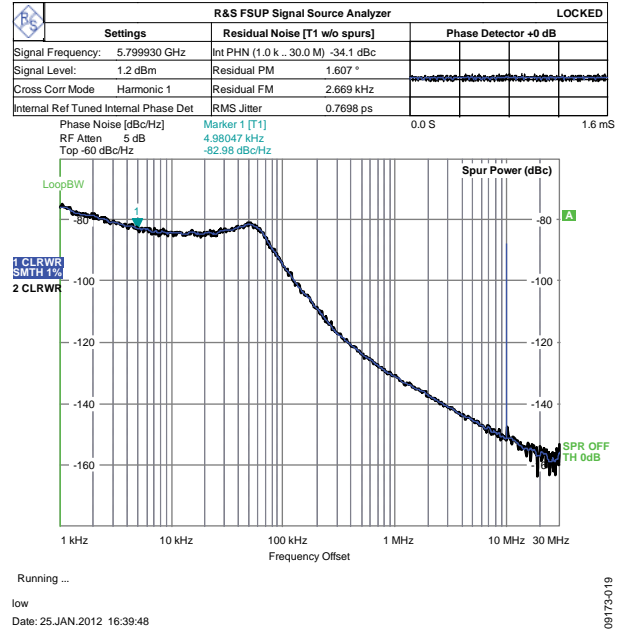
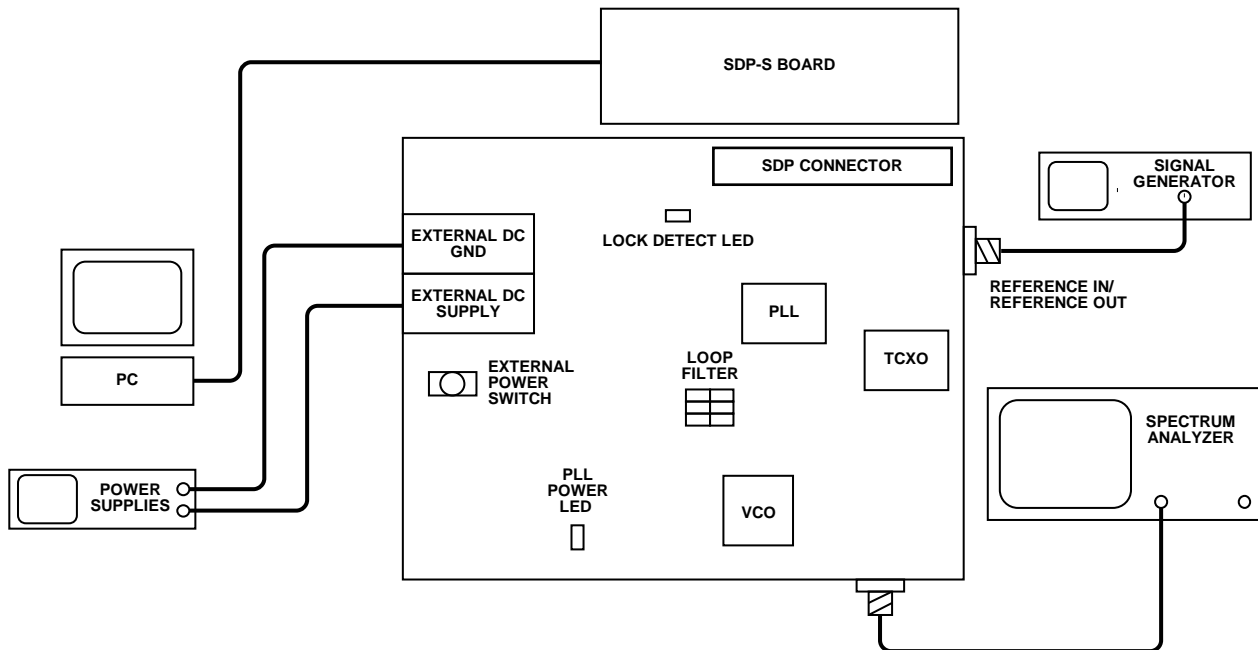

Figure 19. Spectrum Analyzer Display
Figure 20. Typical Evaluation Setup
6. In the software window, set the VCO center frequency (the example in Figure 19 uses 5800 MHz). Set the PFD frequency to 10 MHz, and program the reference frequency to equal 10 MHz. The charge pump current should equal 0.31 mA. See Figure 20 for the suggested setup.
7. Measure the output spectrum. Figure 19 shows a 5800 MHz output.